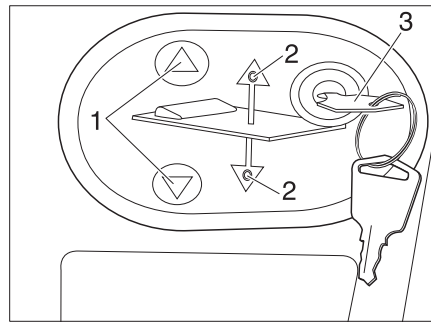

Fig. 159 Operating panel for electrical pull-down bed
- Insert the key (Fig. 159,3) into the operating panel.
- Press the  (Fig. 159,1) button and keep it pressed. The corresponding LED (Fig. 159,2) will light up and the pull-down bed will lower into the middle position and remain there.
- Press the  (Fig. 159,1) button and keep it pressed. The respective LED (Fig. 159,2) lights up and the pull-down bed moves down as far as it will go.